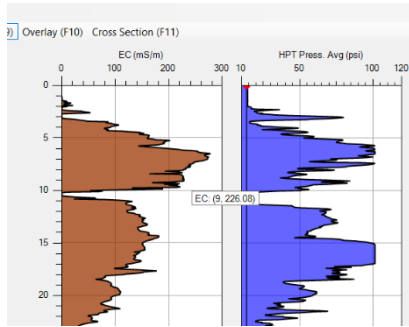
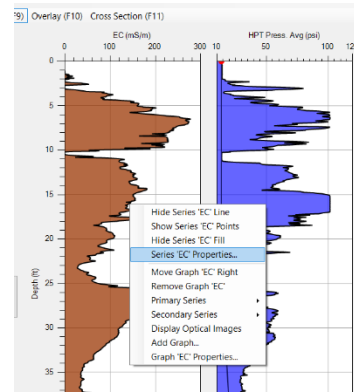

Figure 13: EC data point text box
Figure 14: Series EC Properties
9. Scrolling over a data point on a graph line such as EC (Fig. 13) and right clicking the mouse scroll down to and select *Series 'EC' Properties* (Fig. 14). This will quickly open the ability to edit Line, Fill and Points settings.